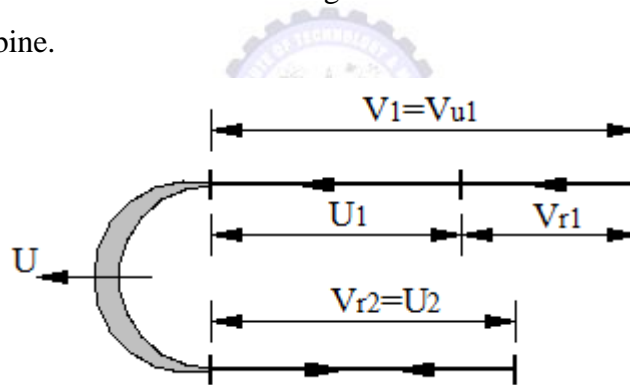

Fig.3.12 Shape of blade needed to produce  $\epsilon_{max}=1$
**3.4.1.4 Zero-angle Turbine:** When  $\alpha_1=0$  and if the requirements for maximum utilization are maintained ( $V_2 = V_1 \sin \alpha_1 = 0$ ), the velocity diagram collapse into a straight line, results in Zero-angle turbine. The shape of the rotor blade which theoretically achieves  $\epsilon_{max}=1$  is shown in figure 3.12. Evidently the blade is semi-cylindrical in shape, with a turning angle of  $180^\circ$ . This turbine cannot work in practice, since a finite velocity  $V_2$  with an axial component is necessary to produce a steady flow at the wheel exit. However this shows that the nozzle angle should be as small as possible. The turbine that has a rotor-bucket with its shape approximately semi-cylindrical is the Pelton wheel, a hydraulic turbine. Even here, the bucket turns the water through  $165^\circ$  instead  $180^\circ$  so that the utilization factor is never unity in any real turbine.